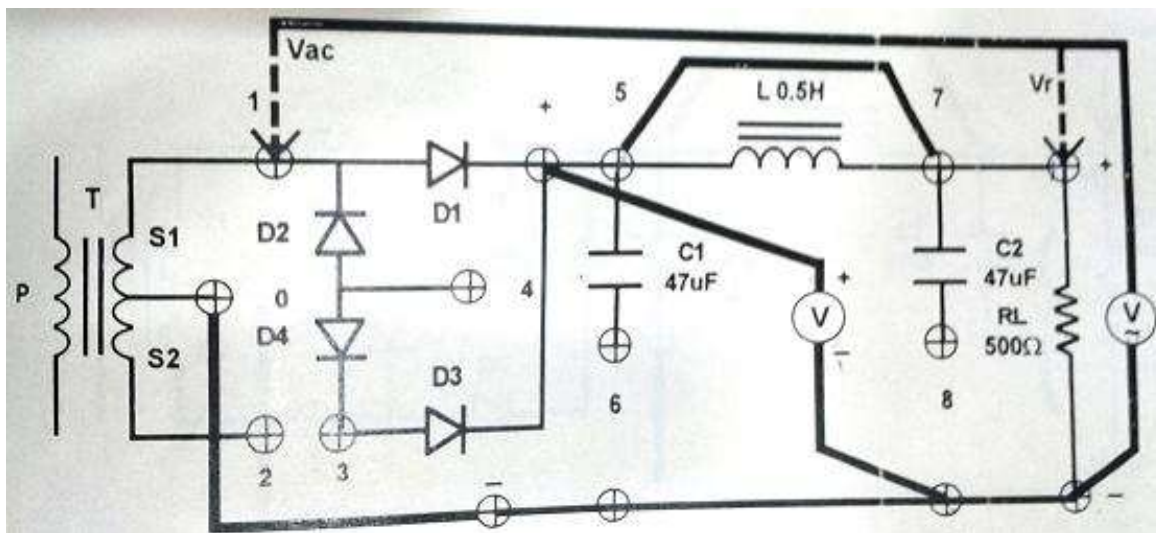

Fig.1 Connection diagram for half wave rectifier.
1. Connect the diode with supply terminals as shown in fig.1. The diode's anode should be connected to +terminal of the supply.
1. Connect the circuit as shown in fig.1. It becomes a half wave rectifier circuit since only diode D1 is in circuit, note L is short circuited and C open.